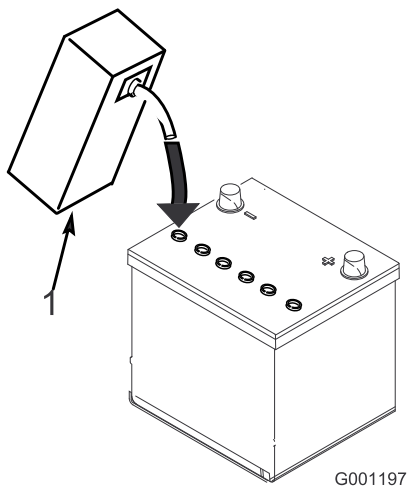

Figure 5
5. Carefully fill each cell with electrolyte until the plates are covered with about 1/4 inch (6 mm) of fluid (Figure 5).